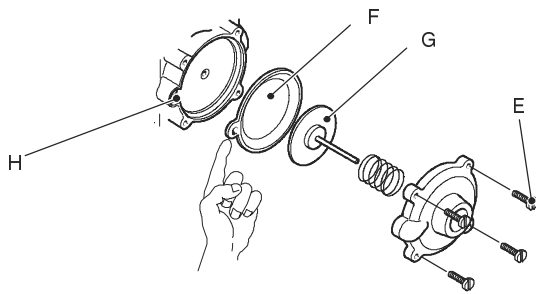

Fig. 12.5
- 3 Unscrew the four screws *E* (see Fig. 12.5) open the hydraulic operator and remove the membrane *F*.
When assembling the membrane, ensure that its concave side faces towards the actuator plate *G* and the reference indicated aligns with the seat *H* (see Fig. 12.5).